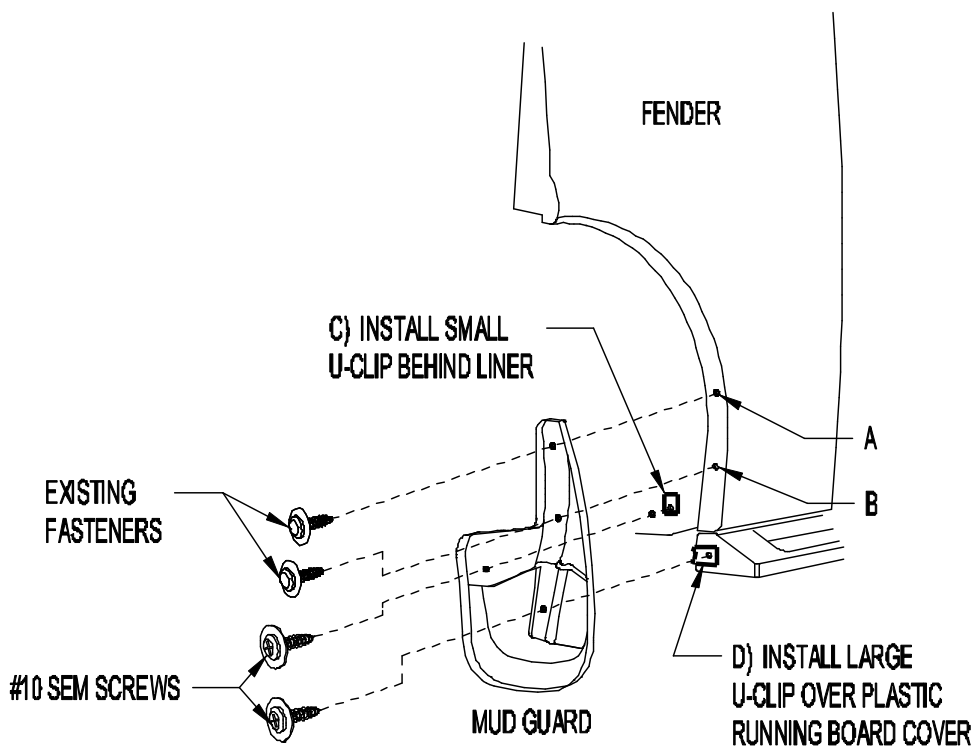

Figure 1
1. Remove existing fasteners from locations A and B (Figure 1).
4. Remove mud guard and install large u-clip at location D over running board lip and align the drilled and u-clip holes (Figure 1).
7. Install #10 SEM screw at location C, thru mud guard, fender liner and into a **small u-clip** behind liner. NOTE: The small u-clip is used like a nut and DOES NOT clip over fender liner (Figure 1 and 2).